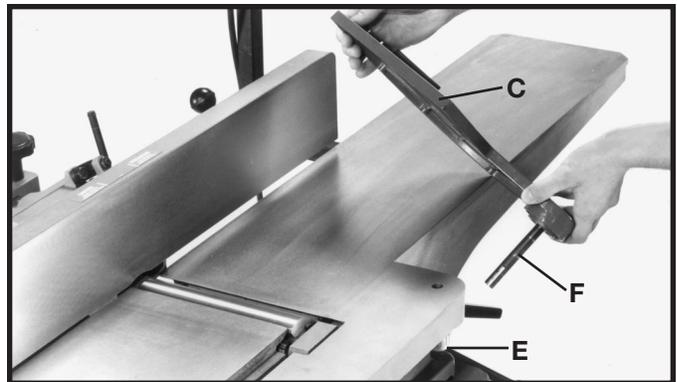
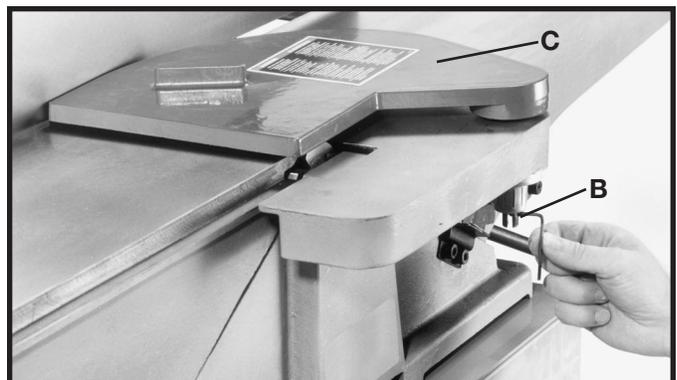

Fig. 20
Fig. 21
2. Thread set screw (B) Fig. 21 back into post (F) Fig. 20, to keep cutterhead guard (C) in position during jointer operation.
3. Fig. 21, illustrates the cutterhead guard (C) assembled to the infeed table.